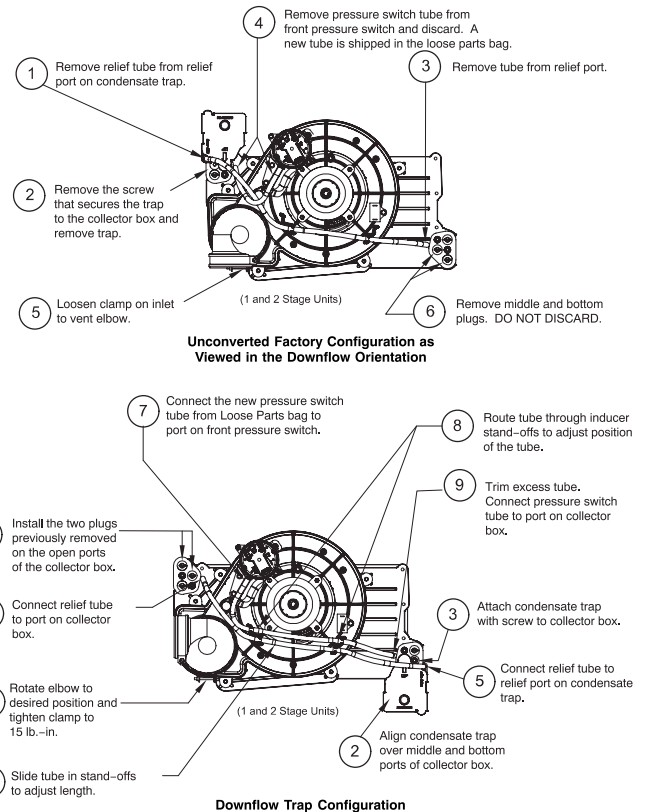

Fig. 9 – Downflow Trap Configuration (Appearance may vary)
When the furnace is installed in the downflow position, the condensate trap will be initially located at the upper left corner of the collector box, as received from the factory. See the top image in Fig. 9. When the furnace is installed in the downflow orientation, the condensate trap must be relocated for proper condensate drainage. See the bottom image in Fig. 9.
- Fig. 9 shows the condensate trap and tubing before and after relocation. Refer to Fig. 9 to begin the trap conversion.